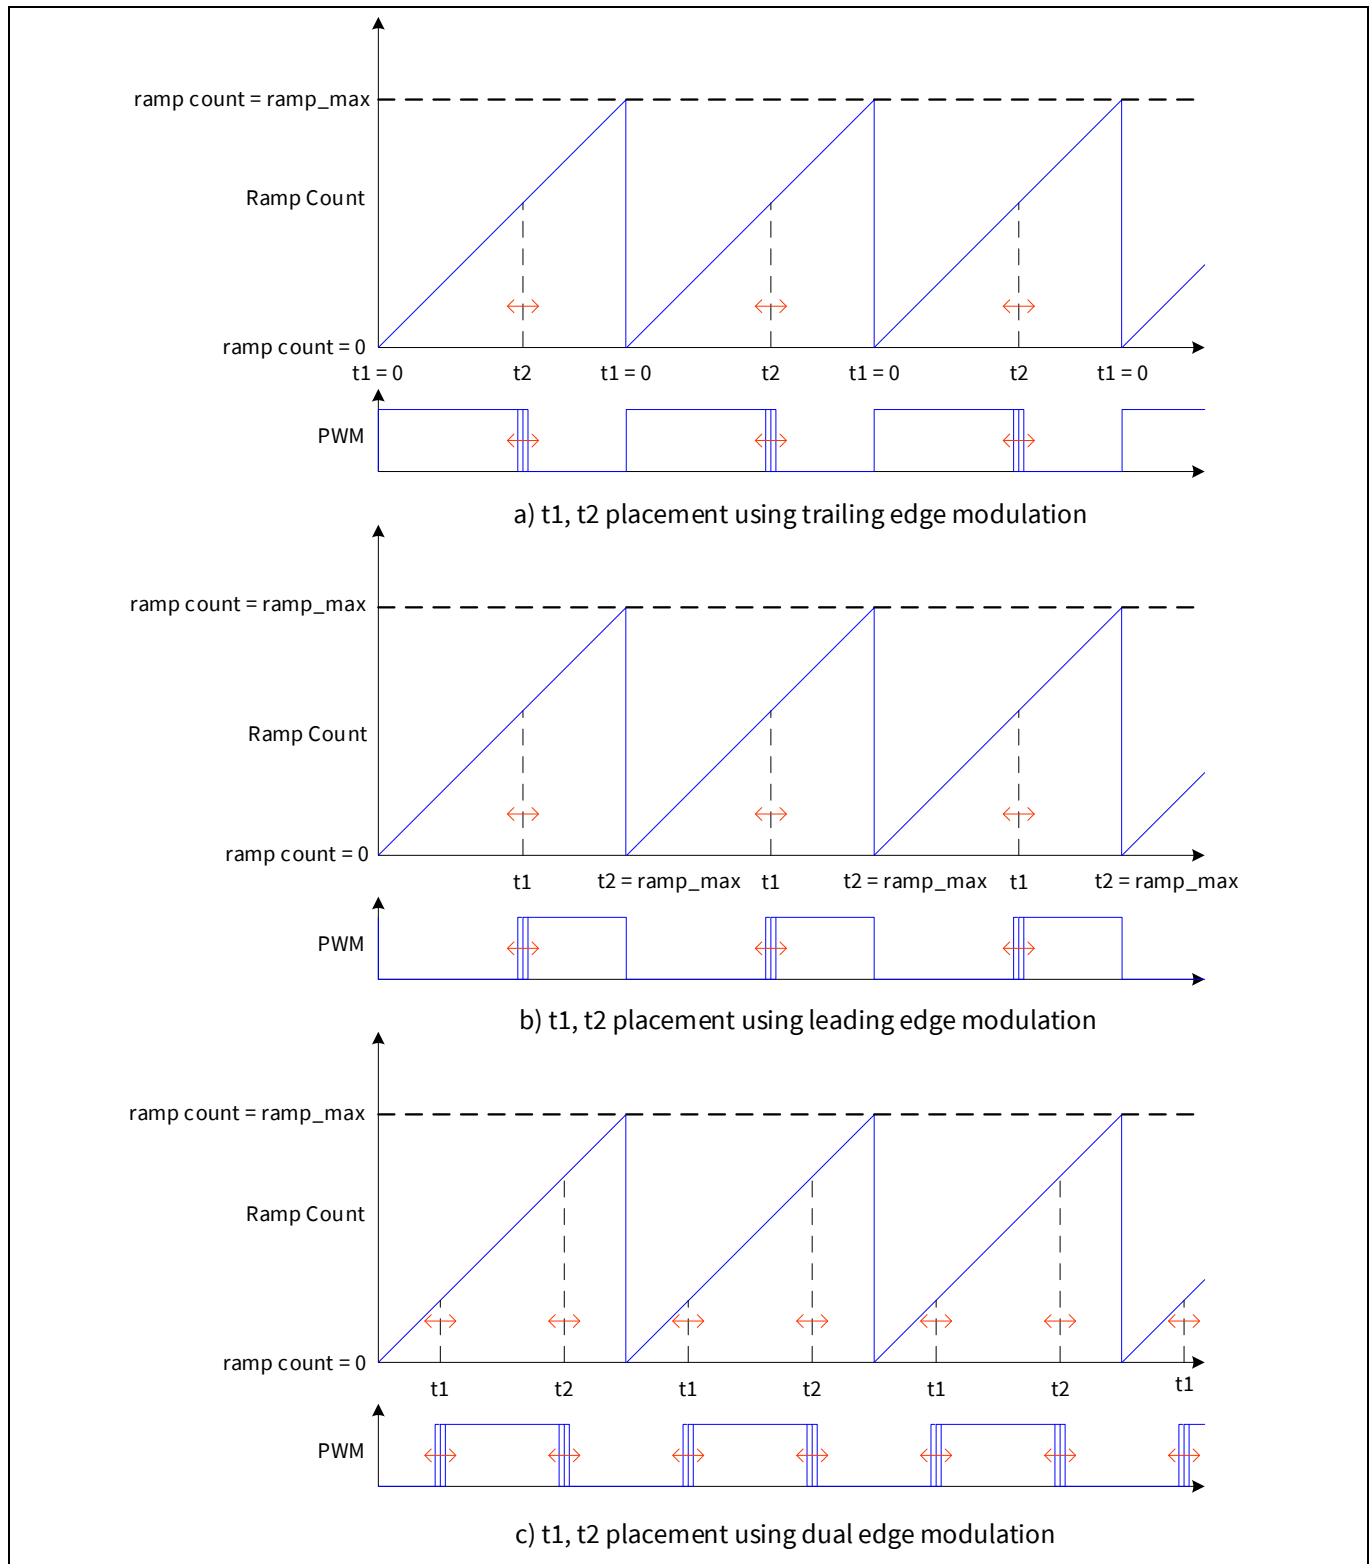

Figure 16 T1 and t2 placement for TE, LE and DE modulation.
VMC supports three pwm modulation modes: dual-edge (DE) modulation, trailing-edge (TE) modulation, and leading-edge (LE) modulation. These modulation schemes are shown in Figure 16.
The first modulation waveform in Figure 16 a) shows the trailing edge (TE) modulation case. The PWM pulse has a fixed leading edge and a modulated trailing edge.
The second modulation scheme is leading edge (LE) modulation, shown in Figure 16 b). The PWM pulse has a fixed trailing edge and a modulated leading edge.
The last modulation scheme is dual edge (DE) modulation, shown in Figure 16 c). In this modulation, the timing markers t_1 and t_2 are both modulated.